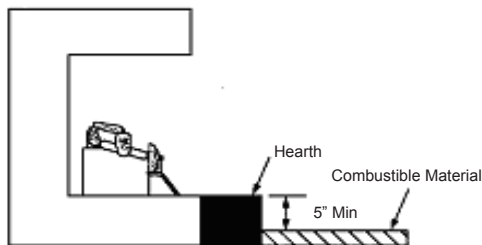

Figure 8 - Minimum fireplace clearances above combustible flooring
b) If combustible materials are less than 14 inches to the fireplace, you must install appliance at least 5 inches above the combustible flooring (see Figure 8).